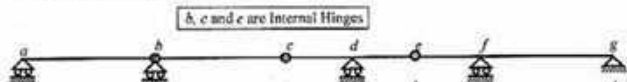

Fig. 3
3. (i) Determine the degree of static indeterminacy (dosi) of beam *abcdefg* shown in Fig. 3 and draw the influence lines of  $R_b$ ,  $V_{(right)}$  and  $M_d$ .